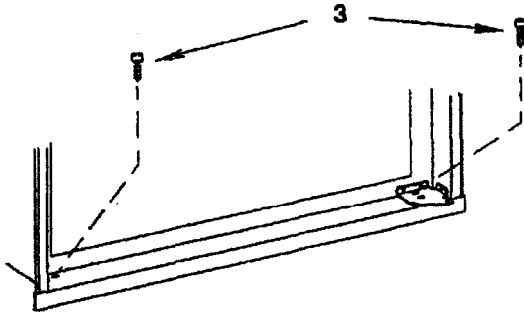

FIG. 6
2. Once the tower front strip is slipped under the hinge, the part is possible to swing into place as shown in FIG. 6.
One screw through the hinge, and on the opposite side one screw through the lower front strip. (FIG. 6).